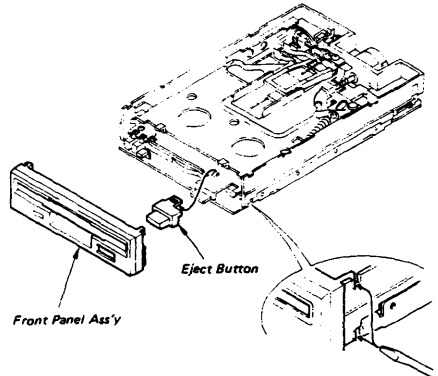

Fig. 4-2 Front Panel Ass'y Replacement
- Push slightly the plastic hinges located on each of right and left sides with (-) shaped screw driver through the square hole of upper cover, and pull it slowly toward you. (Refer to Fig. 4-2)
- Hang the Eject Button to the hook of slide plate as shown Fig. 4-2.